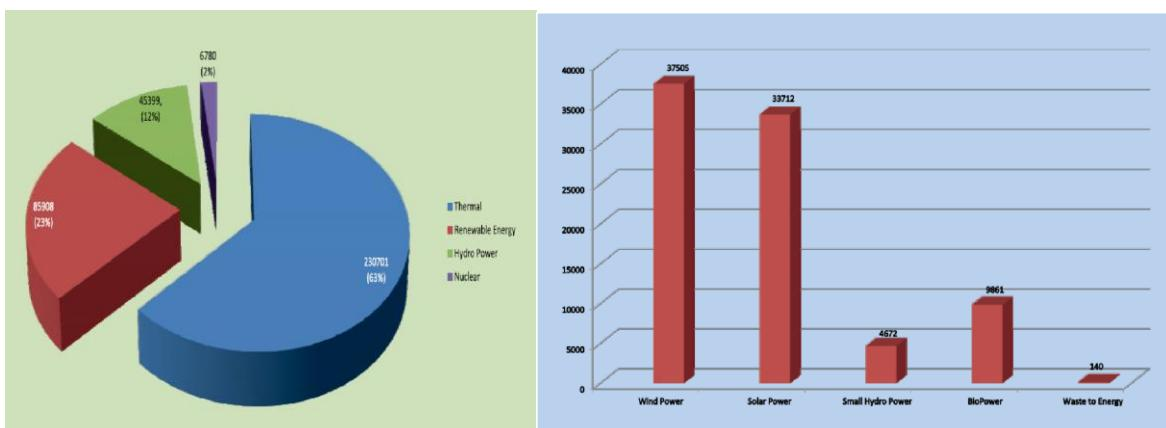

Fig1.3: India-source wise installed power generation capacity (MW) upto 31.12.2022
Figure 1.3 shows the installed power generation capacity (MW) in India through renewable energy sources upto 31.12.2022.